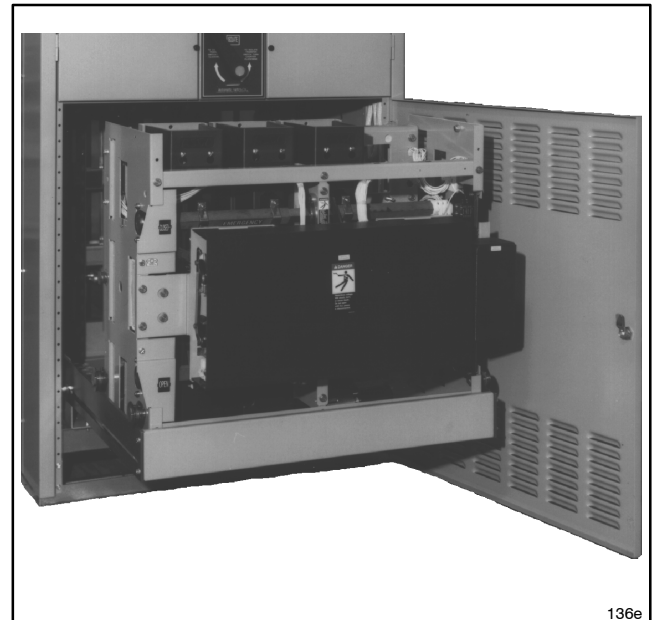

Figure 7-59 1000–4000 Amp Transfer Switch Isolated and Pulled Out for Inspection
2. Pull out the side rail carriage, then roll out the transfer switch. See Figure 7-59. It can be safely inspected in this position. The transfer switch can also be removed for maintenance operations.